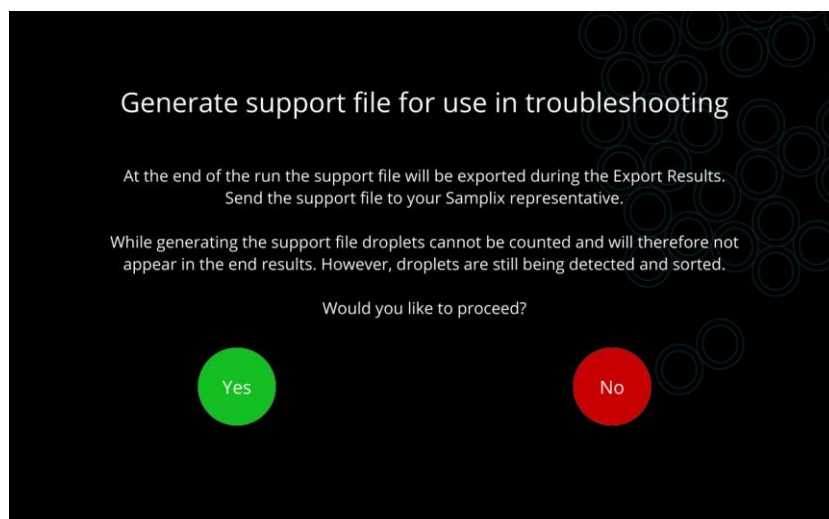

Fig. 3.15. The screen stating that during support file generation droplets cannot be counted and will not appear in the end results.
3. A warning message will appear stating that during support file generation sorted droplets are not counted. Press **Yes** to continue (Fig. 3.15).